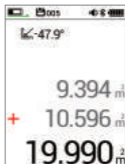

Figure 6 Sum of area
Step 4: Short press  key, the instrument will automatically sum the two areas. The auxiliary display area will display the first and second area values, and the main display area will display the sum of the two areas, as shown in Figure 6.